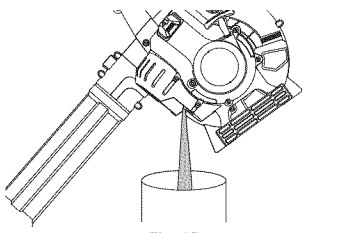

Fig. 15
2. Pour the oil out of the oil fill hole and into a container by tipping the unit to a vertical position (Fig. 15). Allow ample time for complete drainage.